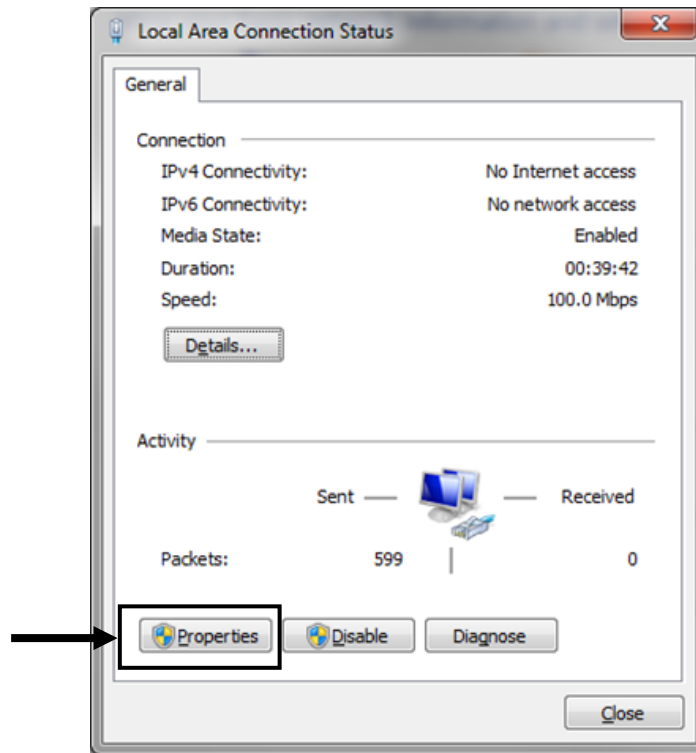

Fig 102. “Properties” Button
- Click the “Properties” button (Fig 102). This will allow you to set the properties of the network adapter.